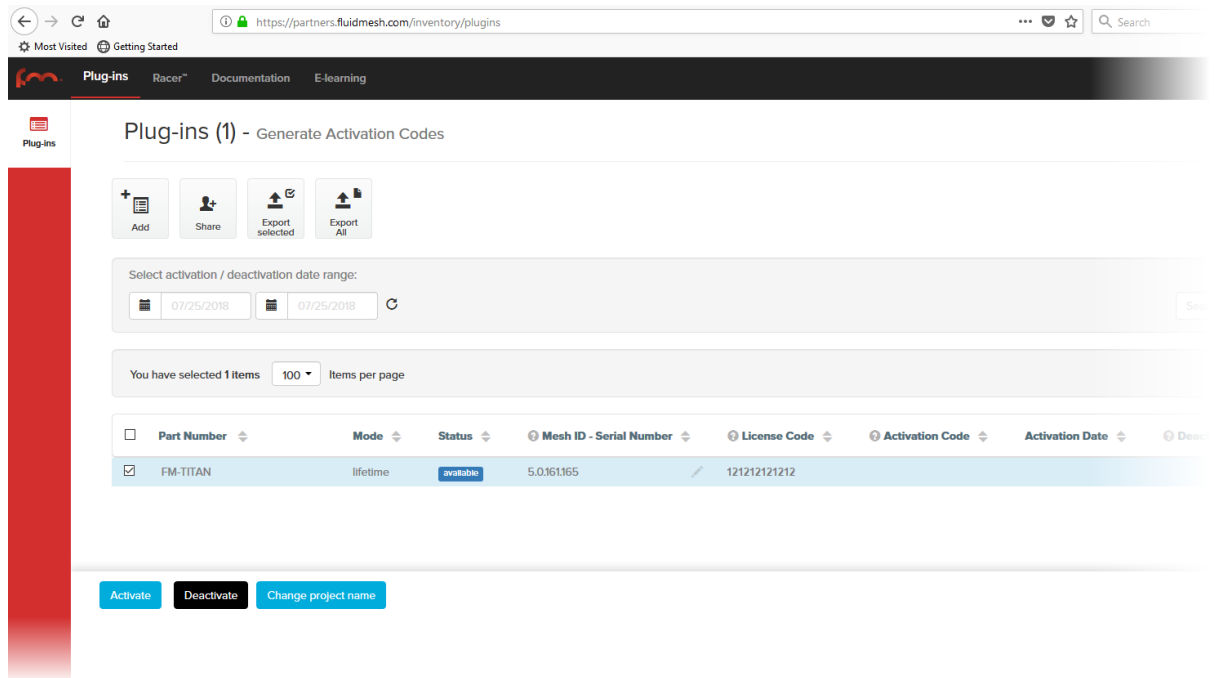

Figure 58. Partner Portal Plug-ins page (License code plug-in)
- When you purchase a generic 16-digit *License code*, the License code and corresponding plug-in will be listed on the Plug-ins page (Figure 58 \(page 114\)).